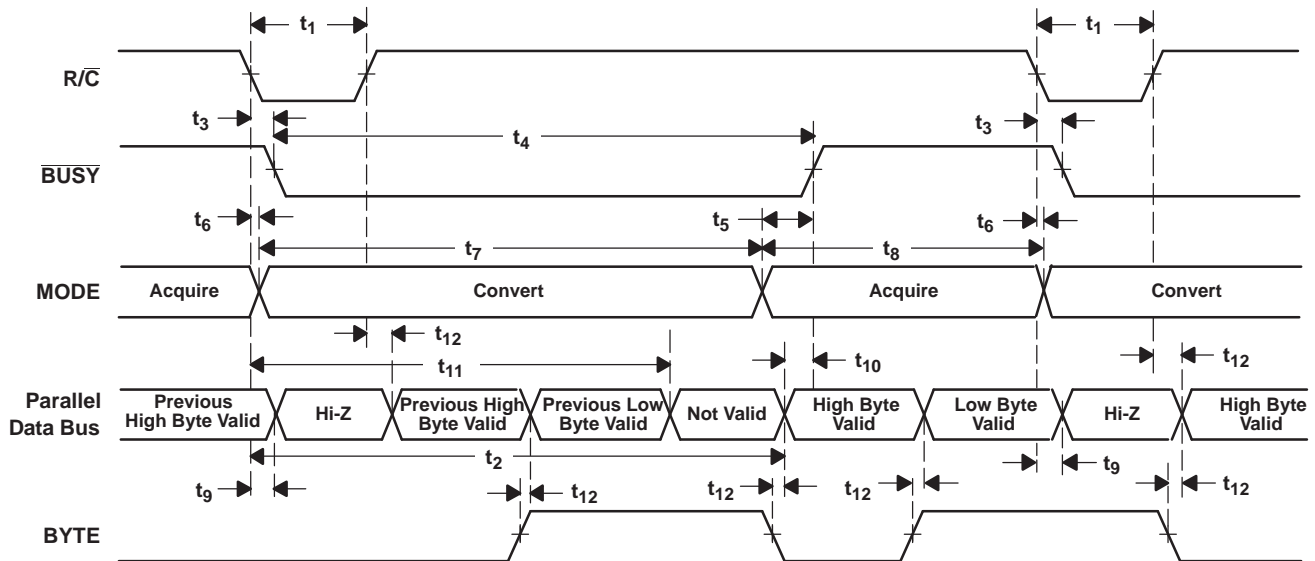
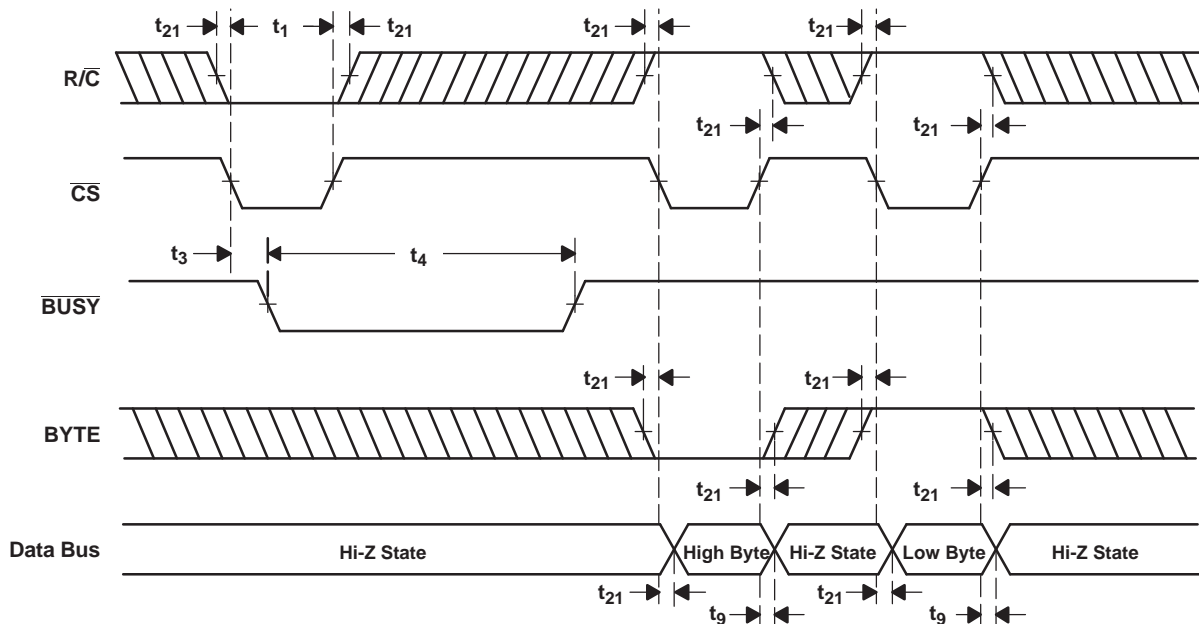

Figure 33. Conversion Timing With Parallel Output ( $\overline{\text{CS}}$  and DATACLK Tied Low, EXT/INT Tied High)
Figure 34.  $\overline{\text{CS}}$  to Control Conversion and Read Timing With Parallel Outputs
The ADS8506 begins tracking the input signal at the end of the conversion. Allowing 25  $\mu$ s between convert commands assures accurate acquisition of a new signal. Refer to Table 2 and Table 3 for a summary of  $\overline{CS}$ ,  $R/\overline{C}$ , and  $\overline{BUSY}$  states, and Figure 33, Figure 34, Figure 35, Figure 36, Figure 37, Figure 38, and Figure 39 for timing diagrams.
(1) See Figure 33 and Figure 34 for constraints on data valid from conversion  $N-1$ .
After conversion  $N$  is completed and the output registers have been updated,  $\overline{\text{BUSY}}$  (pin 24) goes high. Valid data from conversion  $N$  is available on D7-D0 (pin 9-13 and 15-17).  $\overline{\text{BUSY}}$  going high can be used to latch the data. Refer to Table 5 and Figure 33 and Figure 34 for timing specifications.
After conversion  $N$  has been initiated, valid data from conversion  $N-1$  can be read and is valid up to 12  $\mu\text{s}$  after the start of conversion  $N$ . Do not attempt to read data beyond 12  $\mu\text{s}$  after the start of conversion  $N$  until  $\overline{\text{BUSY}}$  (pin 24) goes high; this may result in reading invalid data. Refer to Table 5 and Figure 33 and Figure 34 for timing constraints.